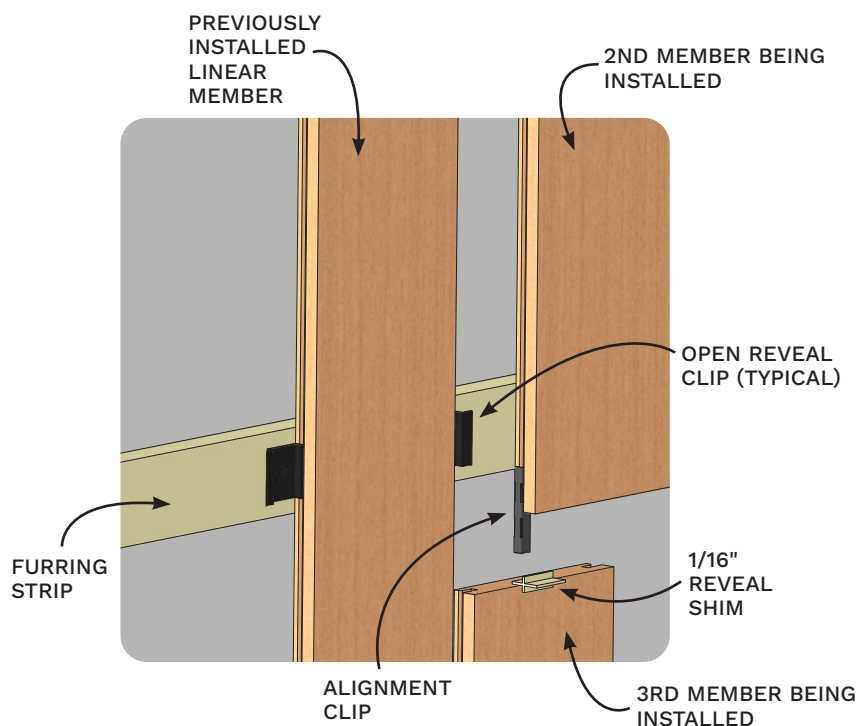
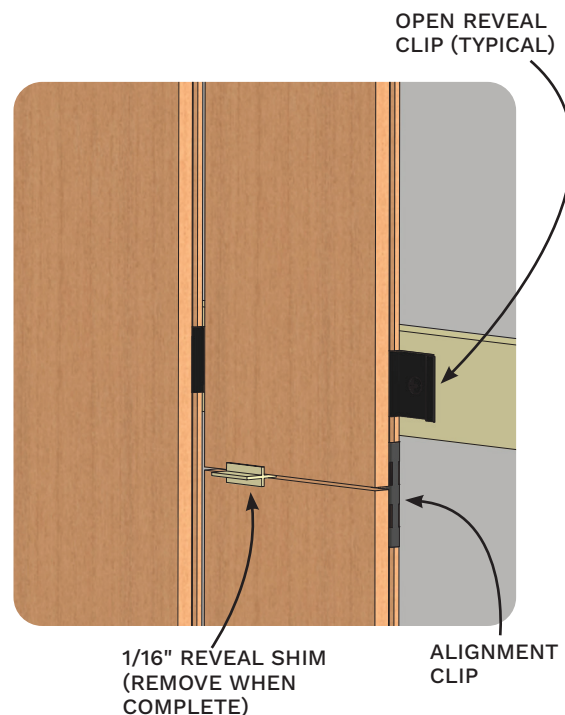

Figure 13
Figure 14
- Attach one alignment clip to the member edge near the previously installed linear member (see Figure 13)
- Position the back of the wood member against the furring (see Figure 13)
- Secure the opposite side with an open reveal clip at each furring strip. Attach open reveal clips with #8 x 5/8" pan head or HWH SMS fasteners (see (figure 14).
- Use a 1/16" shim to set the reveal between the ends of two planks (see Figure 13 and Figure 14).
- Slide the next member into place (see Figure 13 and Figure 14).
- Attach an alignment clip on both sides of the joint. Press them firmly against the members (see Figure 14).